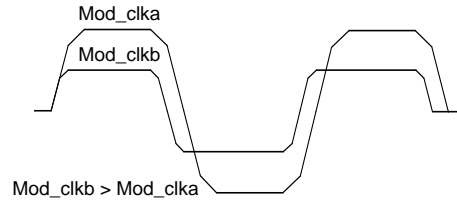

Figure 20. Two Different Modulator Clock Setting
A f_{MOD_CLK} of 8 times the bit rate (as in Figure 20) corresponds to a signal filtered in a Gaussian filter with a Bandwidth Period product (BT) of 1. When BT is increased, the waveform will be less filtered. Minimum BT is 1 (f_{MOD_CLK} is 8 times the bitrate). Figure 20 shows two waveforms with BT=1 and BT=2, i.e. the f_{MOD_CLK} is 8 and 16 times higher than the bit rate. When changing the BT factor, the charge-and discharge times will also be changed, and therefore the frequency deviation, as shown in Figure 20.